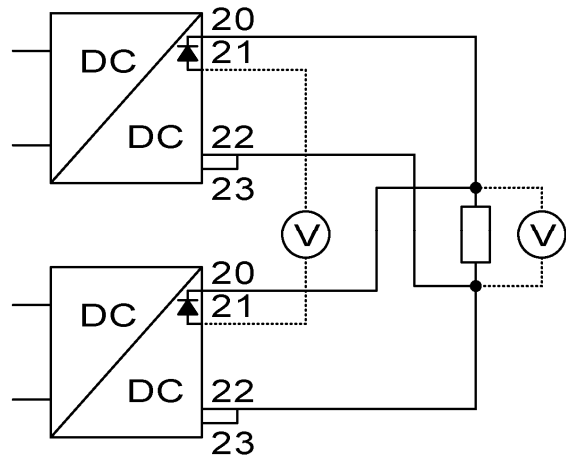

Figure 4. Adjusting output voltage
2. Measure the voltage at the load and on the converters. Connect voltmeters as showed in Figure 4. If you have only access to one voltmeter you must move it around to make
Increase the output voltage by turning the potentiometer marked "V.ADJ" clockwise on the unit with the lowest output voltage until you reach the desired voltage at the load or until the output voltage does not increase anymore (as the unit is in current limit). To find the unit with the lowest output voltage you can measure the voltage difference before the series diode, as in Figure 4. Repeat until you reach the desired output voltage at the load.
Decrease the output voltage by turning the potentiometer marked "V.ADJ" counter clockwise on the unit with the highest output voltage until you reach the desired voltage at the load or until the output voltage does not decrease anymore (as the other units supply all current). To find the unit with the highest output voltage, measure the voltage difference before the series diode, as in Figure 4. Repeat until you reach the desired output voltage at the load.